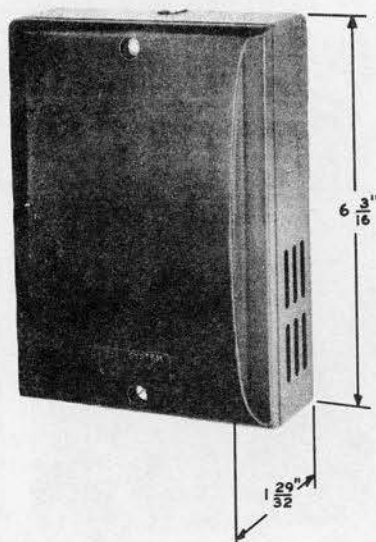

Fig. 1 - 531-Type Subscriber Set
2.01 531 and 584 Types: These subscriber sets are black or color finished and consist of a metal base with mounted apparatus and a removable plastic cover (Fig. 1). Uses and components are as follows: